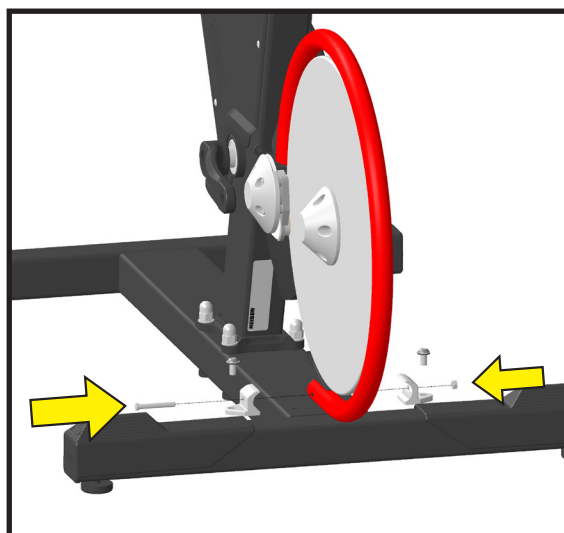

Figure 8. Align, Attach, and Tighten Flywheel Guard Brackets
4. Attach the brackets on the end of the flywheel guard, refer to Figure 8. Use the M6 x 1 x 45 hex head screw and nut (supplied). Hand tighten the screw and nut.